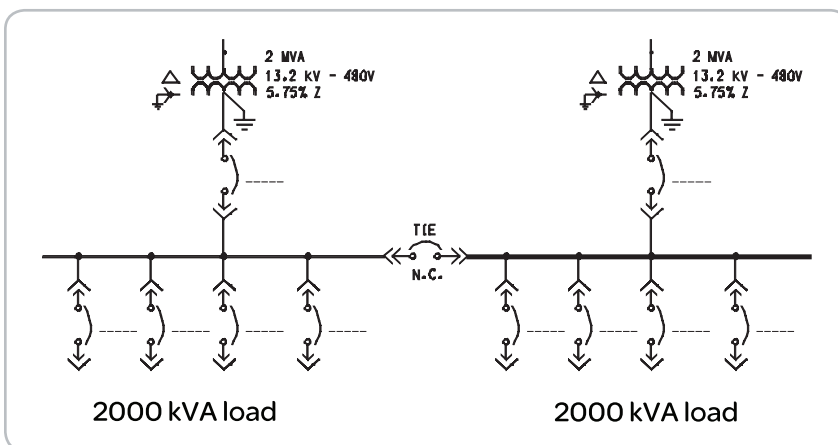
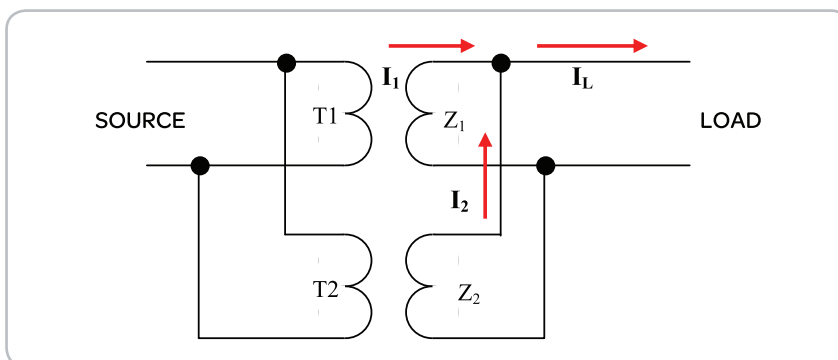
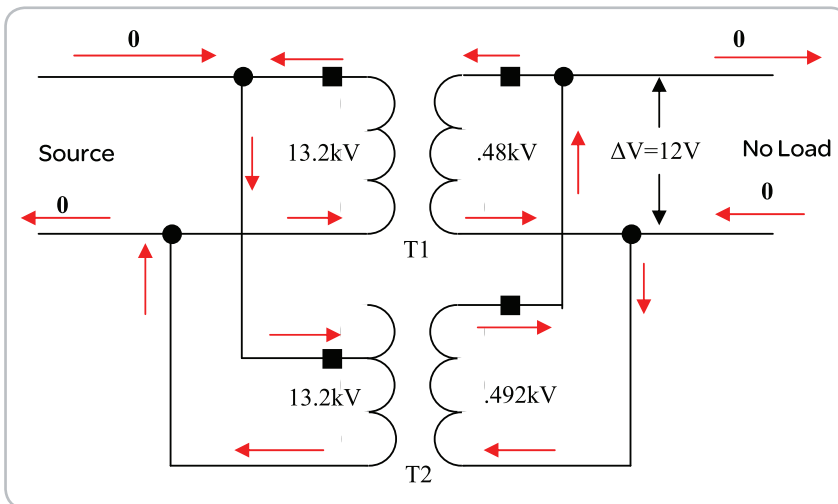

Figure 1: Typical parallel operation
Figure 2: Typical single phase parallel operation
Figure 3: Single-phase diagram with circulating currents – unequal ratios
The standard method of connecting transformers in parallel is to have the same turn ratios, percent impedances, and kVA ratings. This is typically accomplished by maintaining a tie breaker in the normally closed (N.C.) position. Connecting transformers in parallel with the same parameters results in equal load sharing and no circulating currents in the windings of the transformers. Example 1 shows calculations for this scenario. Refer to Figure 1 and Figure 2 for this typical arrangement.
It can be seen by using equations (1) and (2) below, that if the percent impedances in each transformer are the same, as shown in Figure 1, that there will be equal current division and load sharing on each transformer.
A good example of a system with circulation currents would be a double-ended substation (similar to Figure 1) that normally has the tie breaker “open.” The operator has decided to close the tie breaker to provide loading and voltage support for a heavily loaded transformer on the right side. The heavily loaded transformer's taps have been adjusted to raise the operating voltage, and the transformer on the left side has been lightly loaded. Now let's see what happens when these two transformers are paralleled without changing the tap on the right transformer to match the left. Refer to Figure 3 for a single-phase diagram of circulating currents described above with no load connected.